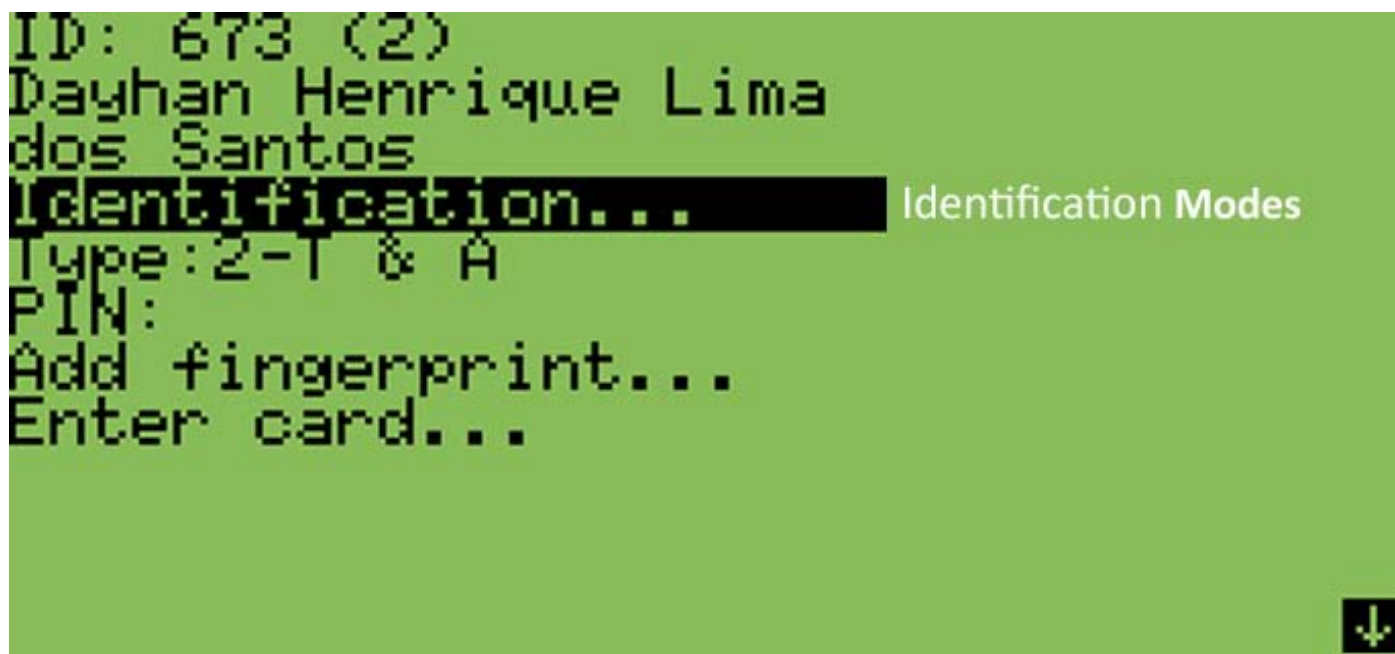

Fig. 32 - Confirmation screen. Use the cursor keys above the keypad to select an option and press [#] to confirm.
- 5 - Navigate to "IDENTIFICATION" option and press "#"; (fig. 32);